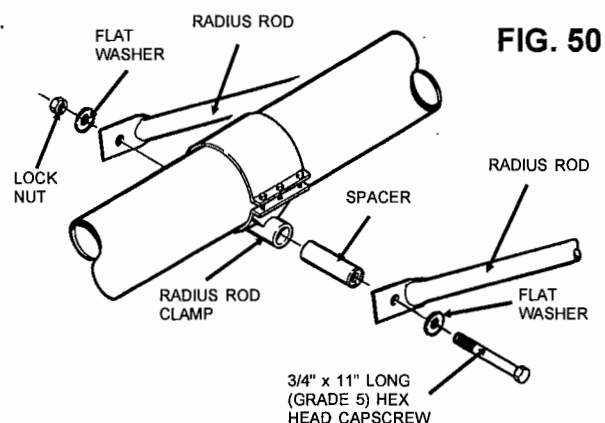

FIG. 50
- Step 30. Insert the pivot pipe spacer into the pipe on the radius rod clamp. Then insert a 3/4" x 11" long (grade 5) hex head capscrew through a flat washer, one radius rod, a spacer and then the other radius rod and a nylon locknut. See Fig. 50. **NOTE:** Check to see all undercarriage bolts and fasteners are tight and assembled correctly.